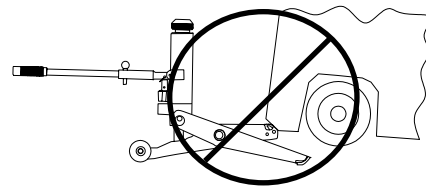

Figure 7B
- **WARNING!** NEVER lift with the jack positioned under a sloped or rounded surface, such as the bottom surface of a forklift's counterweights (see Figure 7B).